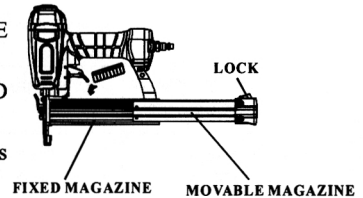

Figure 3
1. Depress the LOCK (68) to release the MOVABLE MAGAZINE (57) and pull the magazine out fully as shown in Figure 3.
2. Place a full clip of the specified type and size fasteners on the FIXED MAGAZINE (62), 100 fasteners may be loaded in the magazine.